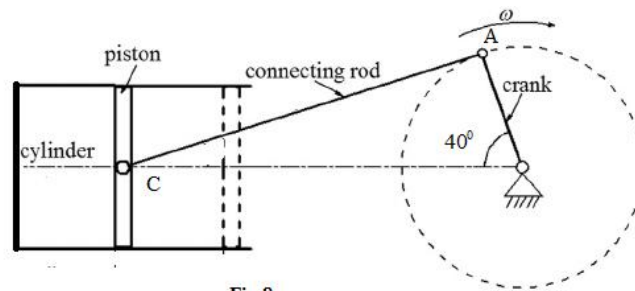

Fig.8
- 15 a) State D'Alembert principle giving the equation. (3)
- b) In a crank and connecting rod mechanism shown in Fig.8, the radius of the crank is 300mm and the length of the rod is 1500mm. The crank is rotating at 300rpm. Determine the following, when the crank makes an angle  $40^\circ$  as shown in Fig.8: (7)